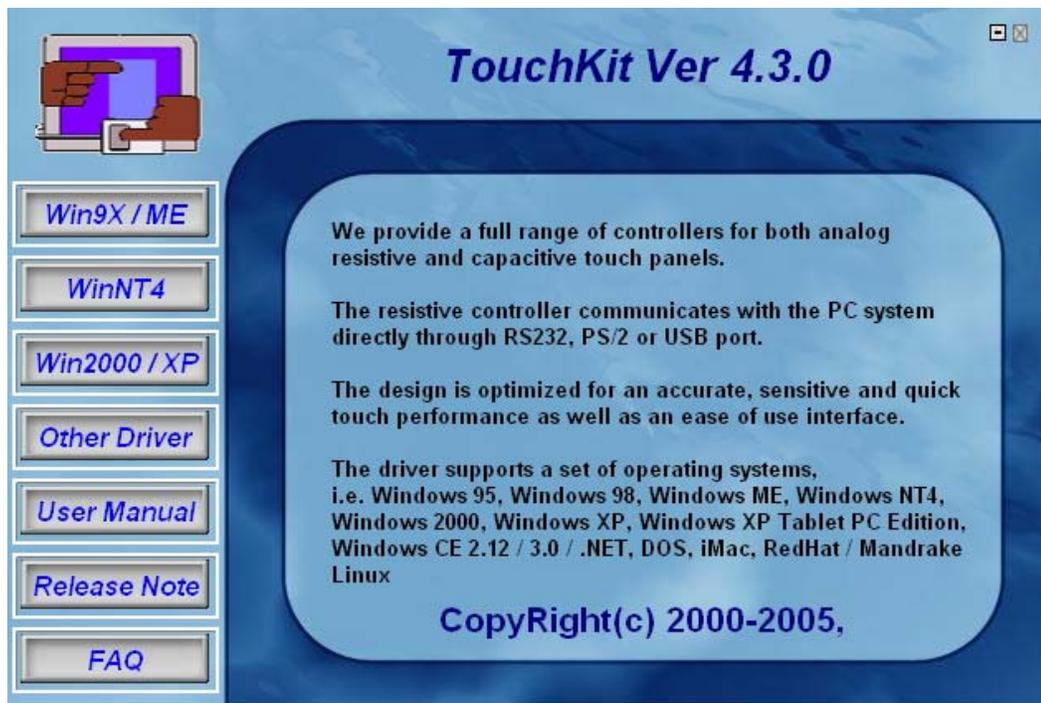

Figure C-1: Driver CD Pop Up Screen
Step 2: Once the CD drive is installed, the screen in **Figure C-1** appears.